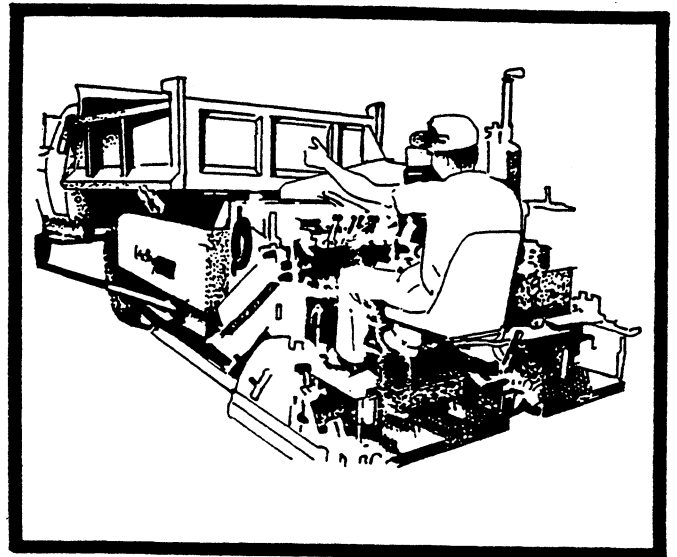

FIGURE 18
- D. It is the operators job to guide the truck up to the paver and signal driver when and how much to dump into hopper. Truck driver must maintain a light pressure on his brakes to keep truck from dumping material on the roadway in front of paver. See Figure 18.